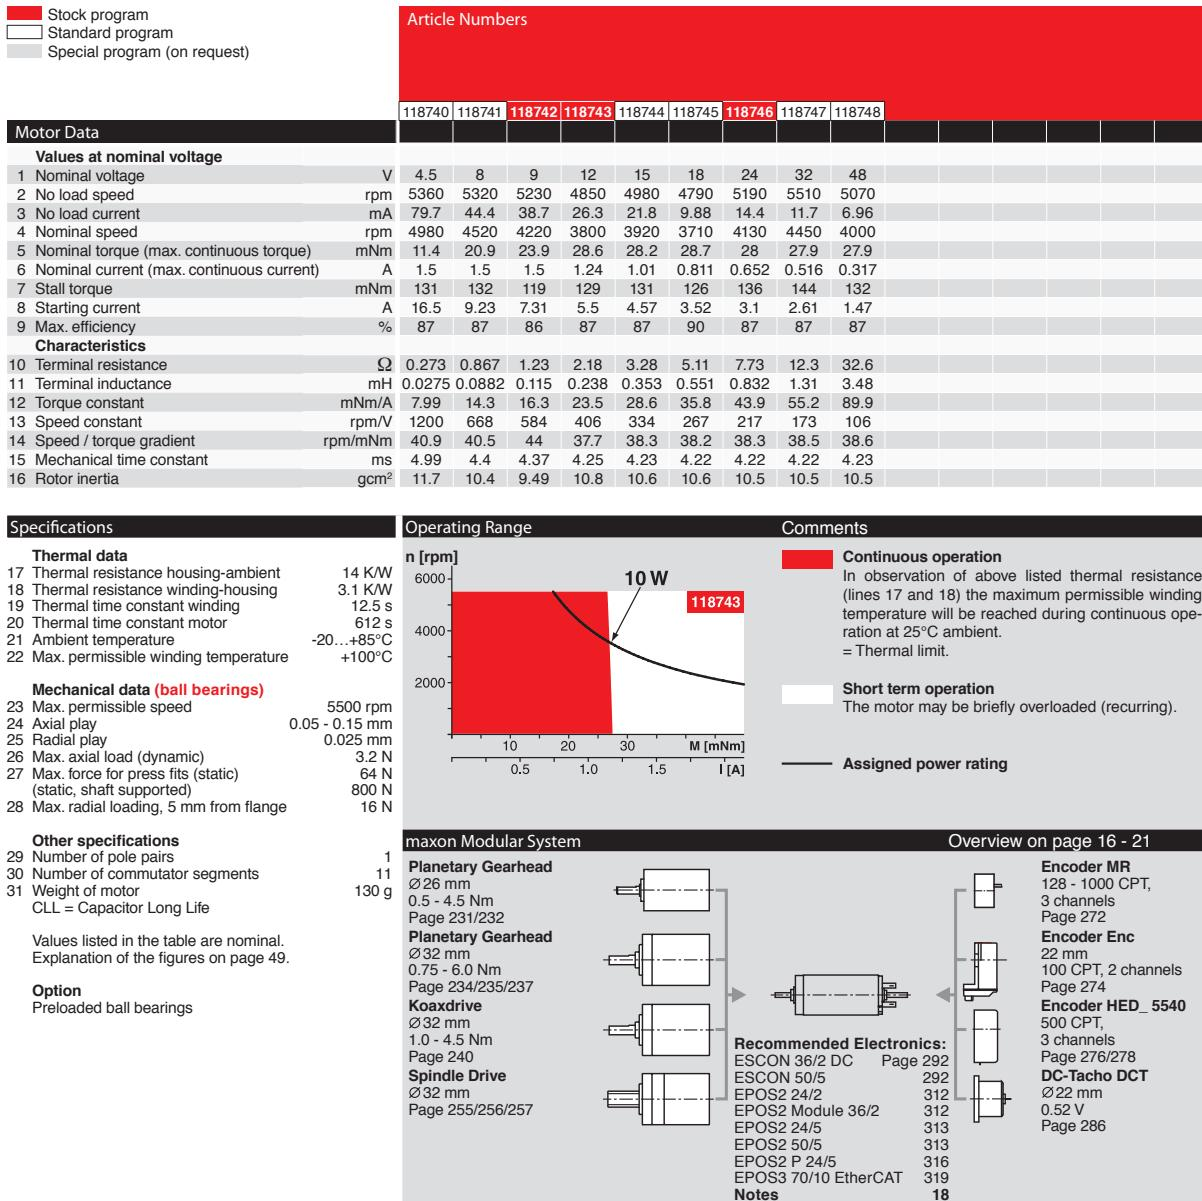

Figure 11.15: The data sheet for the Maxon RE 25 motor. The columns correspond to different windings for different nominal voltages.
2. Figure 11.15 gives the data sheet for the 10 W Maxon RE 25 motor. The columns correspond to different windings.
- (i) (Optional) Motor manufacturers may specify slightly different continuous and intermittent operating regions than the ones described in this chapter. For example, the limit of the continuous operating region is not quite vertical in the speed-torque plot of Figure 11.15. Come up with a possible explanation, perhaps using online resources.